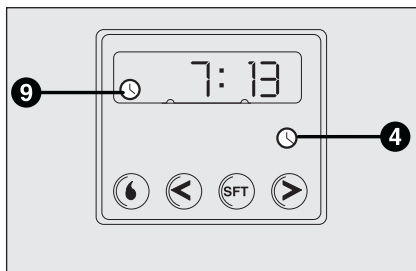

fig. 57
- ☐ Press button 4: display and warning light 9-fig. 57 will light up.